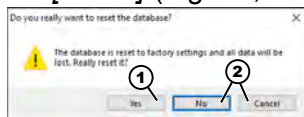

Fig. 59: Note: Do you really want to reset the database?
4. ▶ If you want to abort the process, choose *[No]* or *[Cancel]* (Fig. 59, item 2).
5. ▶ Choose *[Yes]* (Fig. 59, item 1) if you are entirely certain that you want to reset everything.